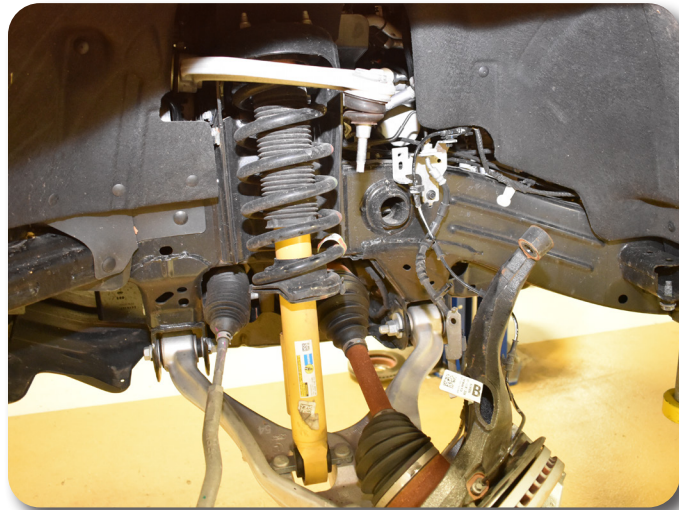

Figure 6
10. Remove the upper ball joint nut and thread back on a couple of turns by hand. Strike the knuckle near the ball joint to dislodge it from the knuckle. **Figure 6** Remove the nut and remove the ball joint from the knuckle. Save nut. Allow the knuckle to rest back away from the front strut.